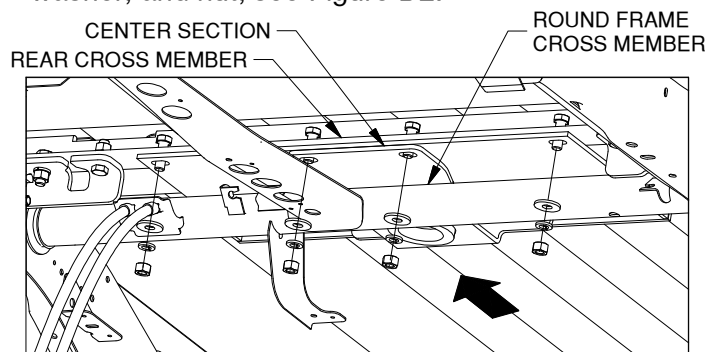

Figure D2: Looking up under truck bed.
- 2. Attach the center section to rear cross member.** With the center section in the center of the truck, slide it toward the rear, placing the flat part of the center section that has four slotted holes between the bed cross member and the round frame cross member. Slide it back until the raised portion of the center section lines up with the 4" hole in the truck bed. Insert the raised portion into the truck bed hole. If using an overhead lifting device, secure it to the center section at this time and apply enough force to hold the center section against the truck bed. Align the slots in the rear flange of the center section with the holes in the rear cross member. Install a 1/2" x 1-1/2" cap screw in each location and secure with a flat washer, lock washer, and nut; see Figure D2.